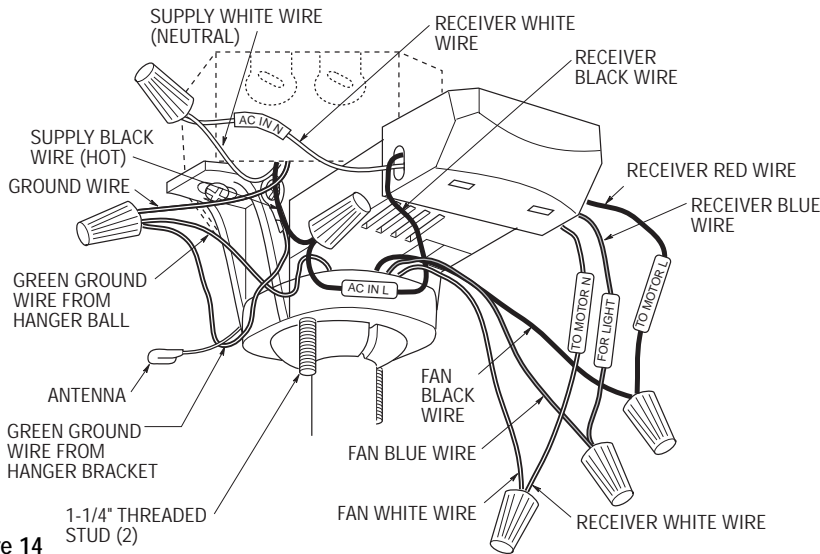

Figure 14
1. Position the supply wires to the left side of the outlet box (Figure 14); position the fan wires to the right side. Partially insert the remote control receiver (flat side up) until one end rests on the hanger ball as shown in Figure 14.
2. Refer to Figures 14 and 15 and connect the receiver wires to the supply wires and the fan motor wires as follows:
- 4. Screw the two 1-1/4" threaded studs (supplied) into the tapped holes in the hanger bracket (Figure 14).